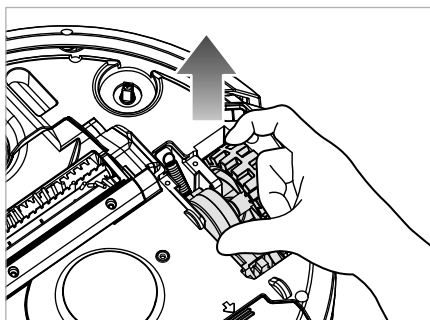

Fig. 21
- 3) Pull the wheel **20/34** a little way out of the appliance and clean it with a lightly moistened cloth or with the cleaning brush **11** (see Fig. 21 and 22). If necessary, also wipe off the wheel compartment.